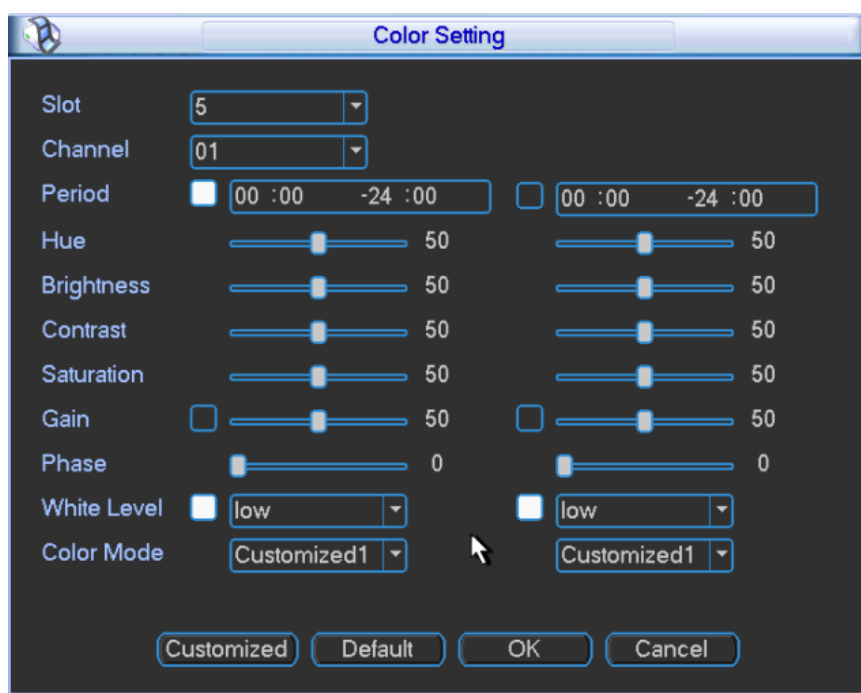

Figure 3- 62
- Color setting: Click to enter image color output setting. Please see Figure 3- 62.